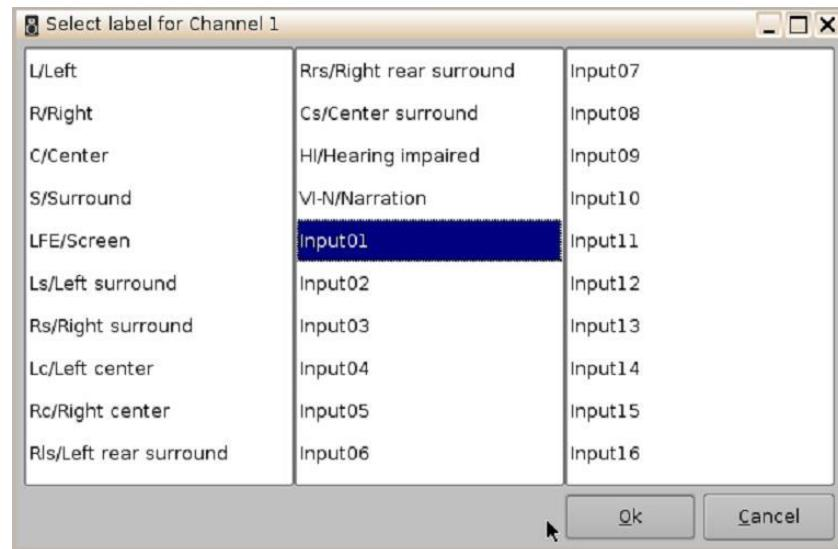

Figure 50: Custom Mapping Parameters
- Click on the Browse button ("...") for each output channel (ch.01-ch.16) to select the CPL's audio channel, using its label that is to be routed (Figure 50).